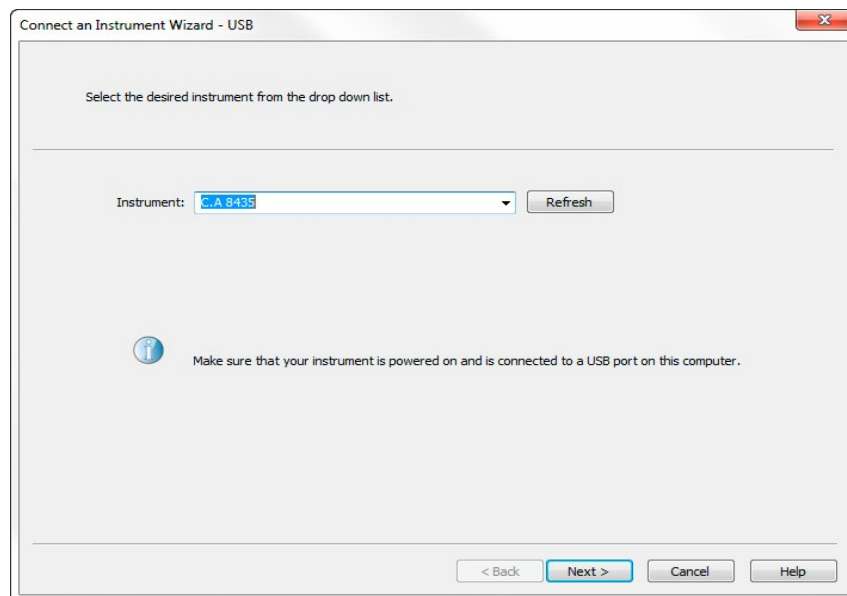

Figure 5-5
2. The **Connection** window will appear (see Figure 5-5). Once the communication link is established, DataView® will automatically identify the instrument that it is connected to.